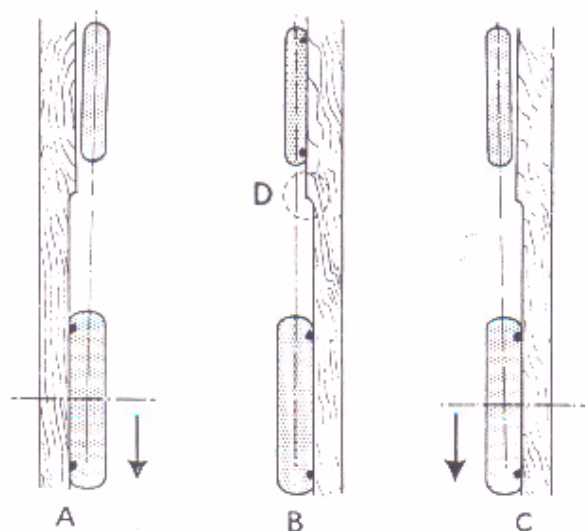

FIG. F12. Checking alignment.
If the tyres are the same size and the wheels in alignment, the straight-edge will be touching the tyres at four points on each side as in (B) Fig. F12.